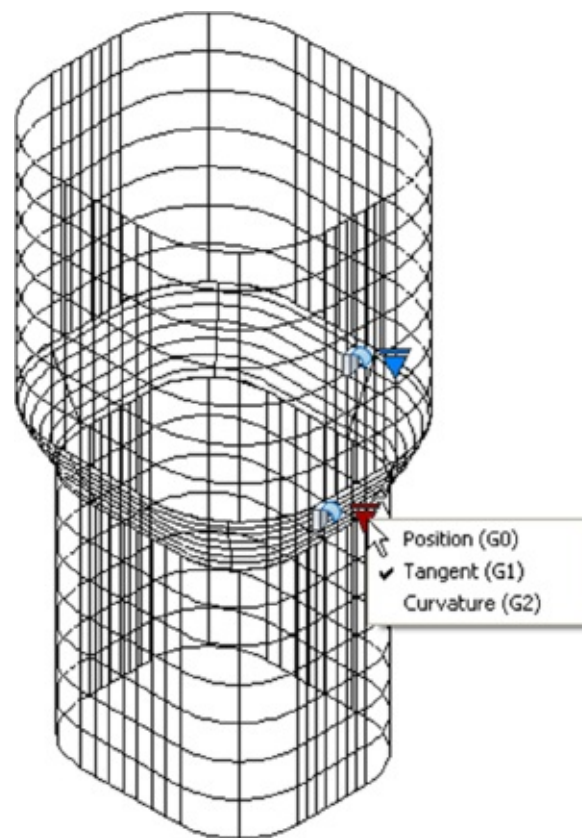

FIGURE 23.48 Using the grip arrowhead to adjust the blend surface
5. You might notice a couple of grip arrowheads that appear along the top and bottom edges of the new blend surface. Click one of them and a menu appears offering three options: Position, Tangent, and Curvature (see Figure 23.48).